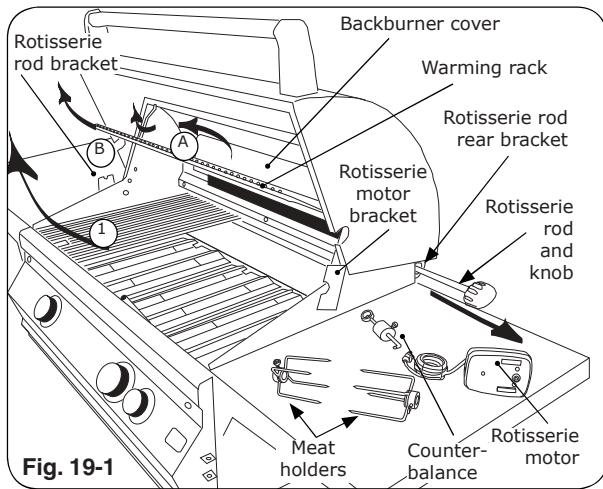
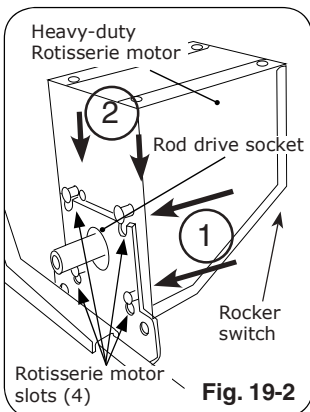
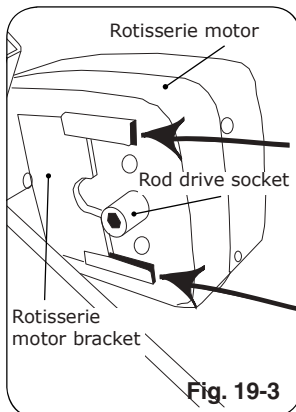

Fig. 19-1
Fig. 19-2
Fig. 19-3
2. Slide rotisserie motor fully onto motor bracket (right side, Fig. 19-2 or Fig. 19-3, and Fig. 19-1).
3. Remove rotisserie rod from rear bracket (Fig. 19-1) and attach knob if necessary.